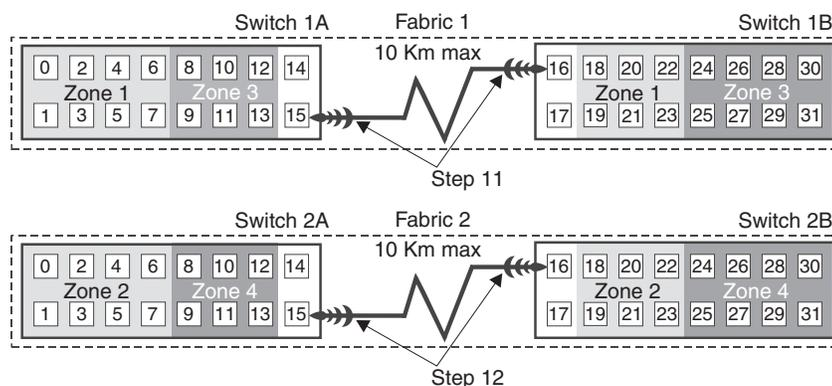

Figure 21. Connecting switches over a remote network to complete Fabric 1 and Fabric 2 environments
11. Complete the Fabric 1 environment for Switch 1 by connecting Switch 1A with Switch 1B. Connect each end of a long range Fibre Channel cable (that can support a distance up to 10 Km (6.25 mi)) to an unzoned port in each switch shown in Figure 21.
12. Repeat step 11 for Switch 2A and 2B to complete the Fabric 2 environment for Switch 2 shown in Figure 21.